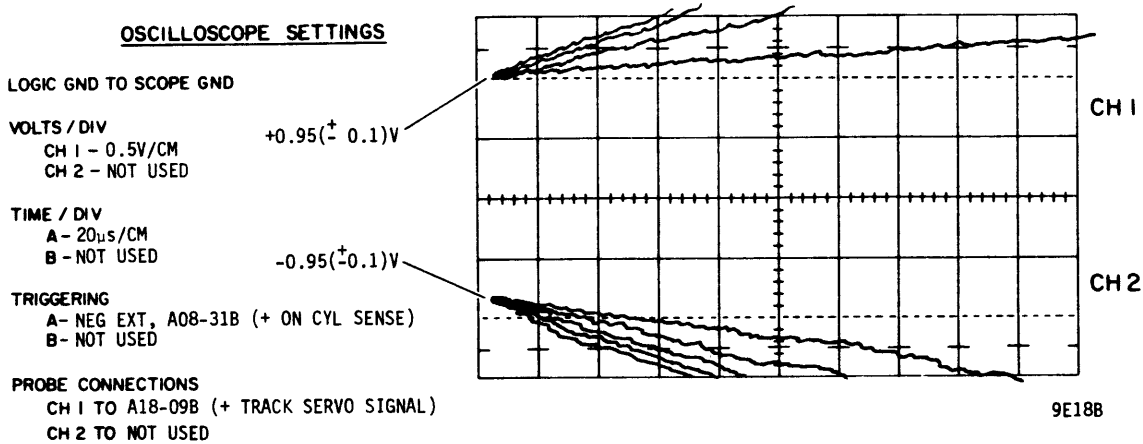

Figure 5-6. On Cylinder Switching Level - Waveform II
5. Set up and connect oscilloscope as shown on figure 5-6.
6. Observe display while manually moving carriage in forward and reverse directions. Check that resulting waveforms agree with those on figure 5-6. Check to ensure that a fault did not occur as the result of manually moving the heads.